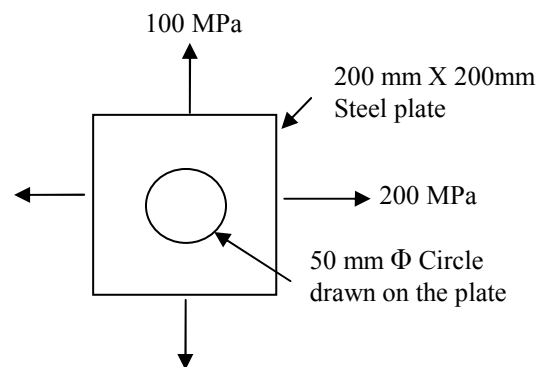

Fig. 2 Q.4 (b)
- (b)** A steel plate of size 200 mm x 200 mm is subjected to stresses as shown in Fig. 2. A circle of 50 mm diameter is drawn on the plate. If for the steel plate $E = 2 \times 10^5$ MPa and Poisson's ratio = 0.25, compute lengths of major and minor axes after the deformation of the plate. 07